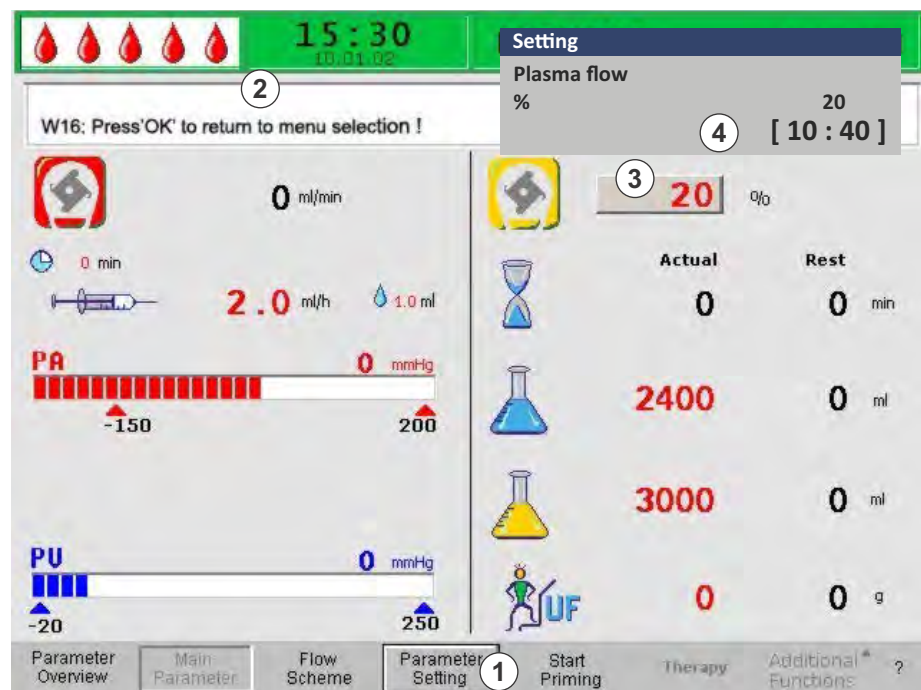

Fig. 2-18 Parameter selection in the *Main Parameter* screen
1. Use rotary knob to select *Parameter Setting* item (Fig. 2-18, ①) in menu bar and press *Enter* key.
- ↪ All parameters which can be changed are displayed in red (Fig. 2-18).
- ↪ In the Alarm/Note line, the message *W16: Press 'OK' to return to menu selection!* (②) appears to indicate that the *OK* key must be pressed to quit the parameter setting.
- ↪ The currently selected parameter value field is shown embossed (like not pressed) with a gray background (Fig. 2-18, ③). The range for parameter setting is displayed in the *Setting* window that appears (④). If a parameter is relevant for patient safety, the currently set value is indicated above the setting range.